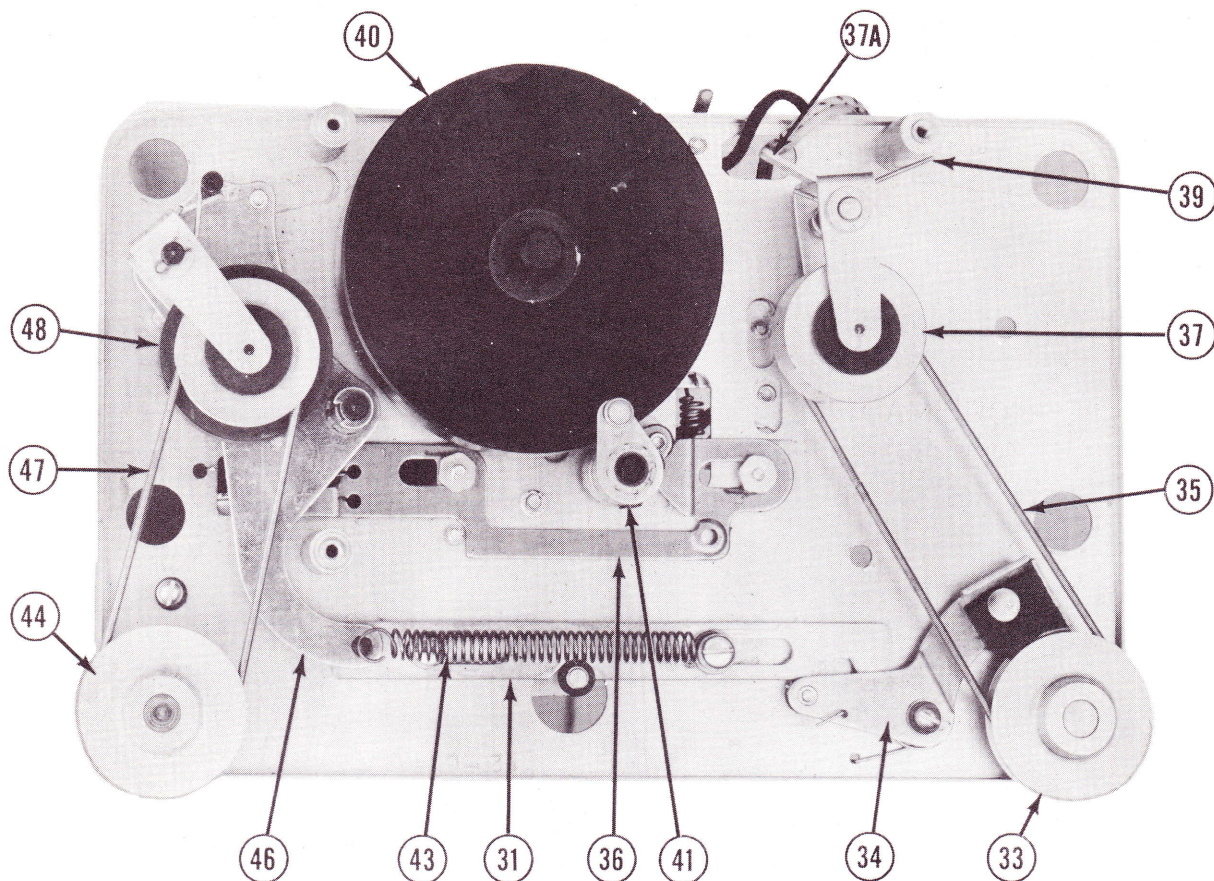

Figure 3
There is no motor plate stop adjustment in the "Rewind" position; however, the rewind drive pulley (37) is located in a hanger whose position is adjusted by bending the Stop lug (37A), see Figure 3, against the swing plate pushing in a manner that will allow a clearance between the drive roller (57) and the rewind pulley (37) in the "Stop" position. This will also allow the drive roller to engage the drive pulley in the "Rewind" position. In this position, the rewind drive pulley hanger lug (37A) is moved away from the stop. The rewind drive pulley (37) is firmly held against the motor drive pulley (57) by the torsion spring (39) that needs no adjustment.